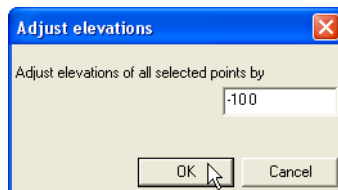

Figure 3-13. Enter Elevation Adjustment Number
2. On the *Adjust elevations* dialog box, type the number to add to or subtract from the current elevation and click **OK** (Figure 3-13). Use a minus sign to subtract an elevation value.